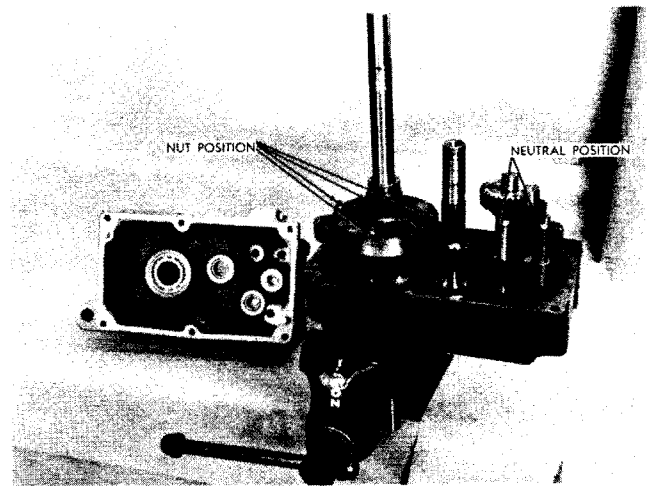

FIGURE 20
- Install the differential and axle assembly, as shown in Figure 20, making sure that four (4) nuts are up toward the L. H. case.